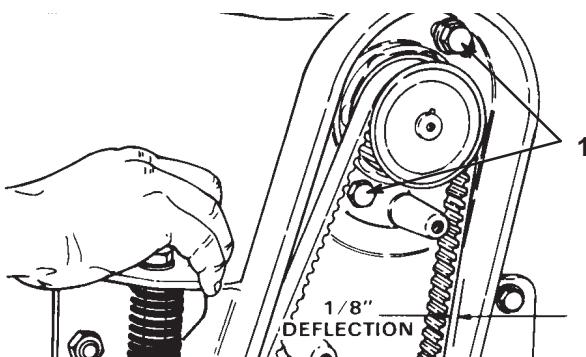

Figure 12
4. Insert the 2 reel drive motor mounting bolts (heads on inside of the drive housing—flat washer on top bolt) through the reel motor flange holes. Thread the locknuts onto the bolts. Rotate reel motor upward in the slotted hole in the housing to tension the drive belt and tighten the fasteners (Fig. 12) to approx. 25 ft. lb. (34 N·m).
Note: Proper belt tension is achieved when belt deflects approximately 1/8 in. (3 mm) at mid-point when 7 lb. of force is applied. (Fig. 12).